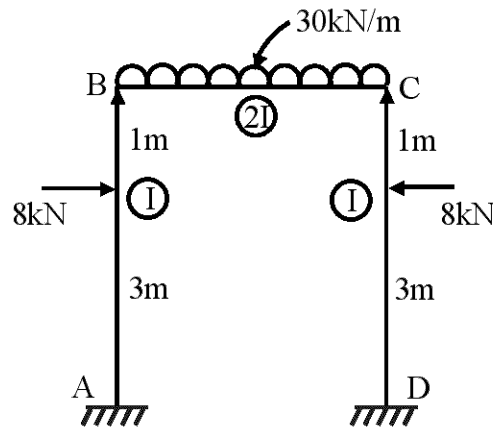

Fig. 7
10. Using the moment distribution method, draw the bending moment diagram of the portal frame as shown in fig. 7. 14